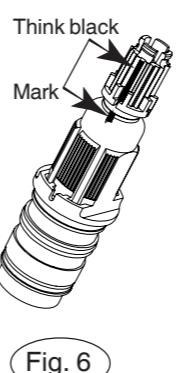

Fig. 6
- Check that the black line is correctly in line with the mark (fig. 6 and 7).